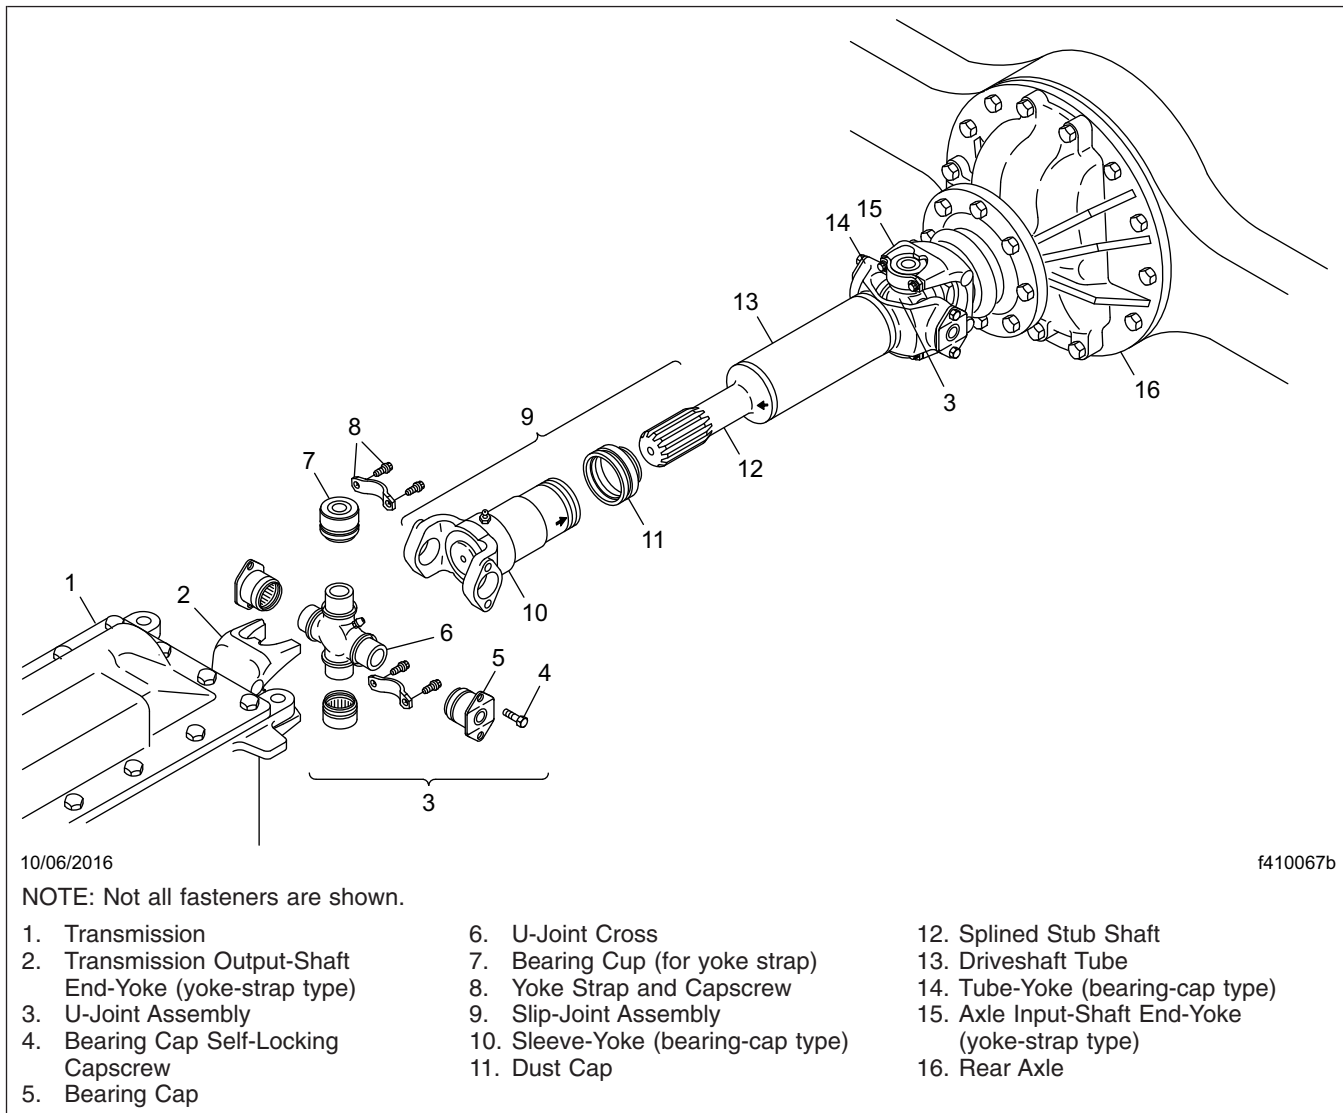

Fig. 3, Components of a Basic Driveline
For U-joints with yoke straps, tighten yoke-strap capscrews 125 lbf·ft (169 N·m). See Fig. 3.
3. Check the driveline yokes for cracks, and check end-yokes for looseness. See Fig. 3.